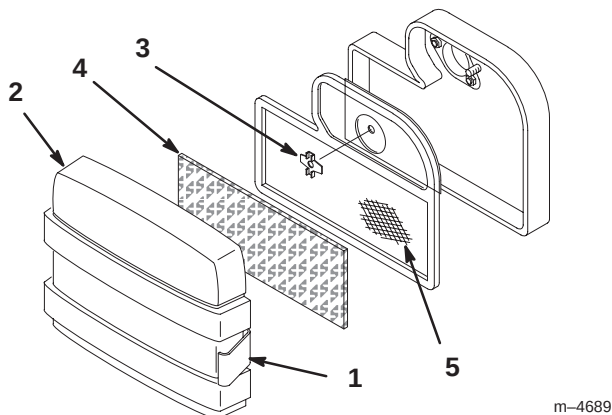

Figure 20
2. Clean around the air cleaner to prevent dirt from getting into the engine and causing damage. Pull out on retaining latches and remove the air cleaner cover (Fig. 20).
3. Unscrew nut and remove the air cleaner assembly (Fig. 20).
4. Carefully pull the foam element off the paper element (Fig. 20).
1. Carefully place the foam element onto the paper air cleaner element (Fig. 20).
2. Place the air cleaner assembly onto the air cleaner base (Fig. 20). Secure with nut.
3. Install the air cleaner cover and secure latches (Fig. 20).